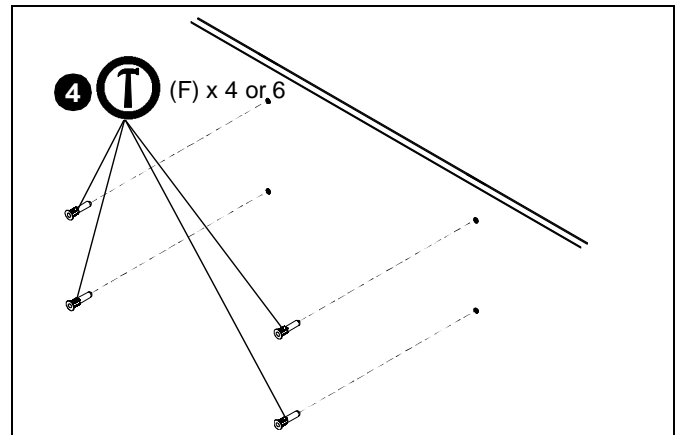

Figure 6
4. Install four or six concrete anchors (F) into drilled holes. Use a hammer to tap anchors into holes. (See Figure 6)